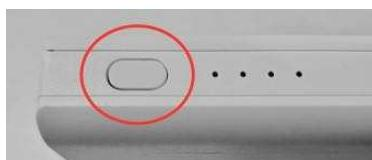

Figure 17.1. The power button on the RAVPower Battery.
**Resolution:** Press the button on the side of the battery (Figure 17.1).